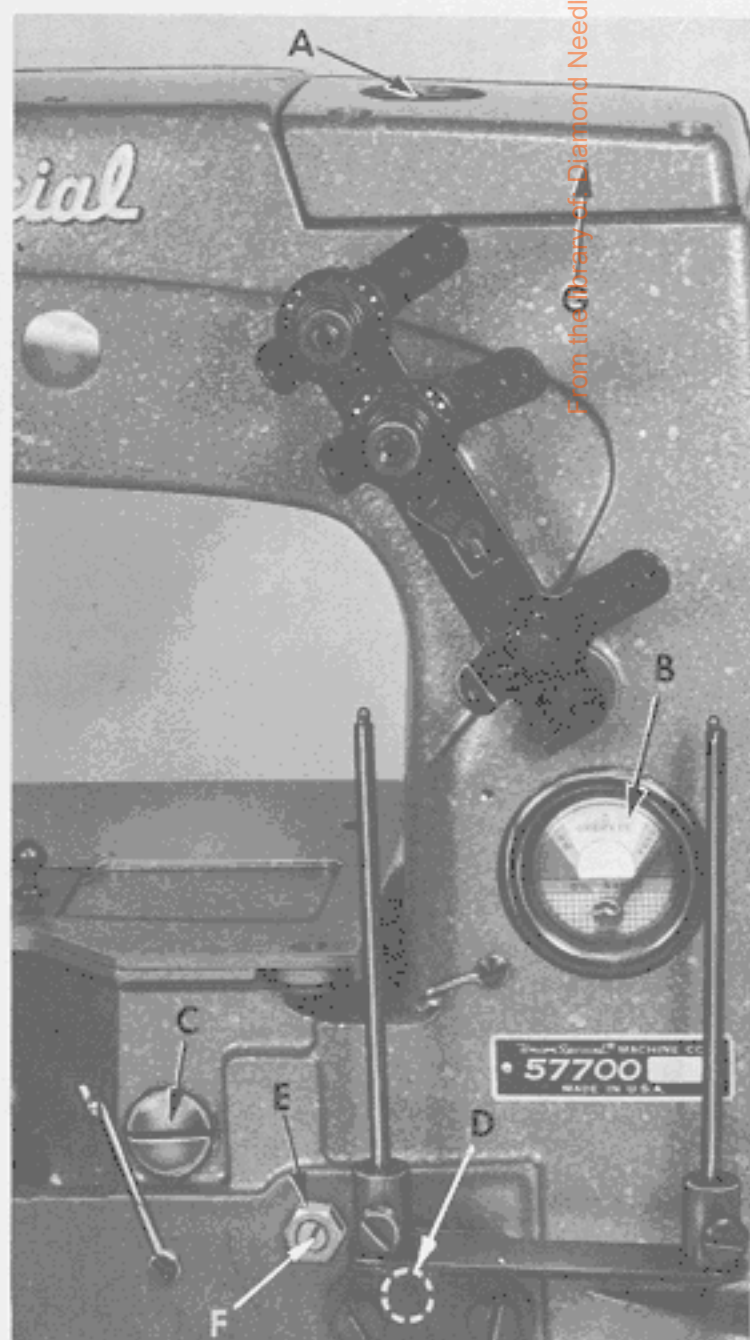

Fig. 2
Use a straight mineral oil of a Saybolt viscosity of 90 to 125 seconds at 100° Fahrenheit in the main reservoir. This is equivalent to Union Special specification No. 175. Fill main reservoir at plug screw in upper crank chamber cover (A, Fig. 2) and check oil level at gauge (B). Oil is at maximum level when needle is in yellow band marked "Full". Oil should be added when needle is in yellow band marked "Low".
Oil may be drained from main reservoir by removing plug screw (C, Fig. 2) located below the cloth plate at front of the machine.
2. Remove the oil reservoir plug screw (C, Fig. 2) and tip machine forward to drain oil from the reservoir.
5. Fill main reservoir to a level even with the bottom contour of the knee press shaft bushing (D, Fig. 2).
6. Loosen lock nut (E) on calibrating screw (F), and turn the screw to the left or right until the gauge needle rests in the middle of the yellow band marked "LOW".
7. Tighten lock nut (E) and replace plug screw (C).
Remove the head cover and upper crank chamber cover (G, Fig. 2). Check position of needle lever bearing oiler (A, Fig. 3) located inside the arm casting, below the upper crank chamber cover, which lubricates the needle lever stud (B). Make sure it is tilted downwardly and that its delivery end (C) contacts the inside wall of the bed casting at the back, just above the notch of the needle lever shaft stop collar. (Do not allow the oiler to rest on the needle lever). Allow 1/64 inch clearance as in Fig. 3.